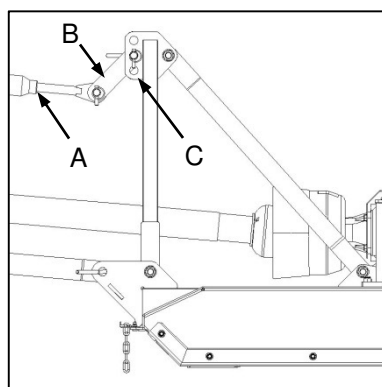

Fig. 1
- ✔ With the implement in the working position, the tractor 3-point hitch top link length should be adjusted (Fig. 1-A) to allow the flexible link (Fig. 1-B) to assume an angle of approx. 45 degrees. Note that multiple hole locations (Fig. 1-C) are available in order to achieve an acceptable hitch geometry in both the working and lifted positions.
- ✔ Met die implement in die werksposisie, verstel die lengte van die trekker se 3-punt-boskakel (Fig. 1-A) sodat die flotering skakel (Fig. 1-B) in omtrent 'n 45 grade-posisie is. Benut die verskillende gat-opsies (Fig. 1-C) om aanvaarbare hoeke in sowel die werksposisie as die opgeligte posisie te verkry.